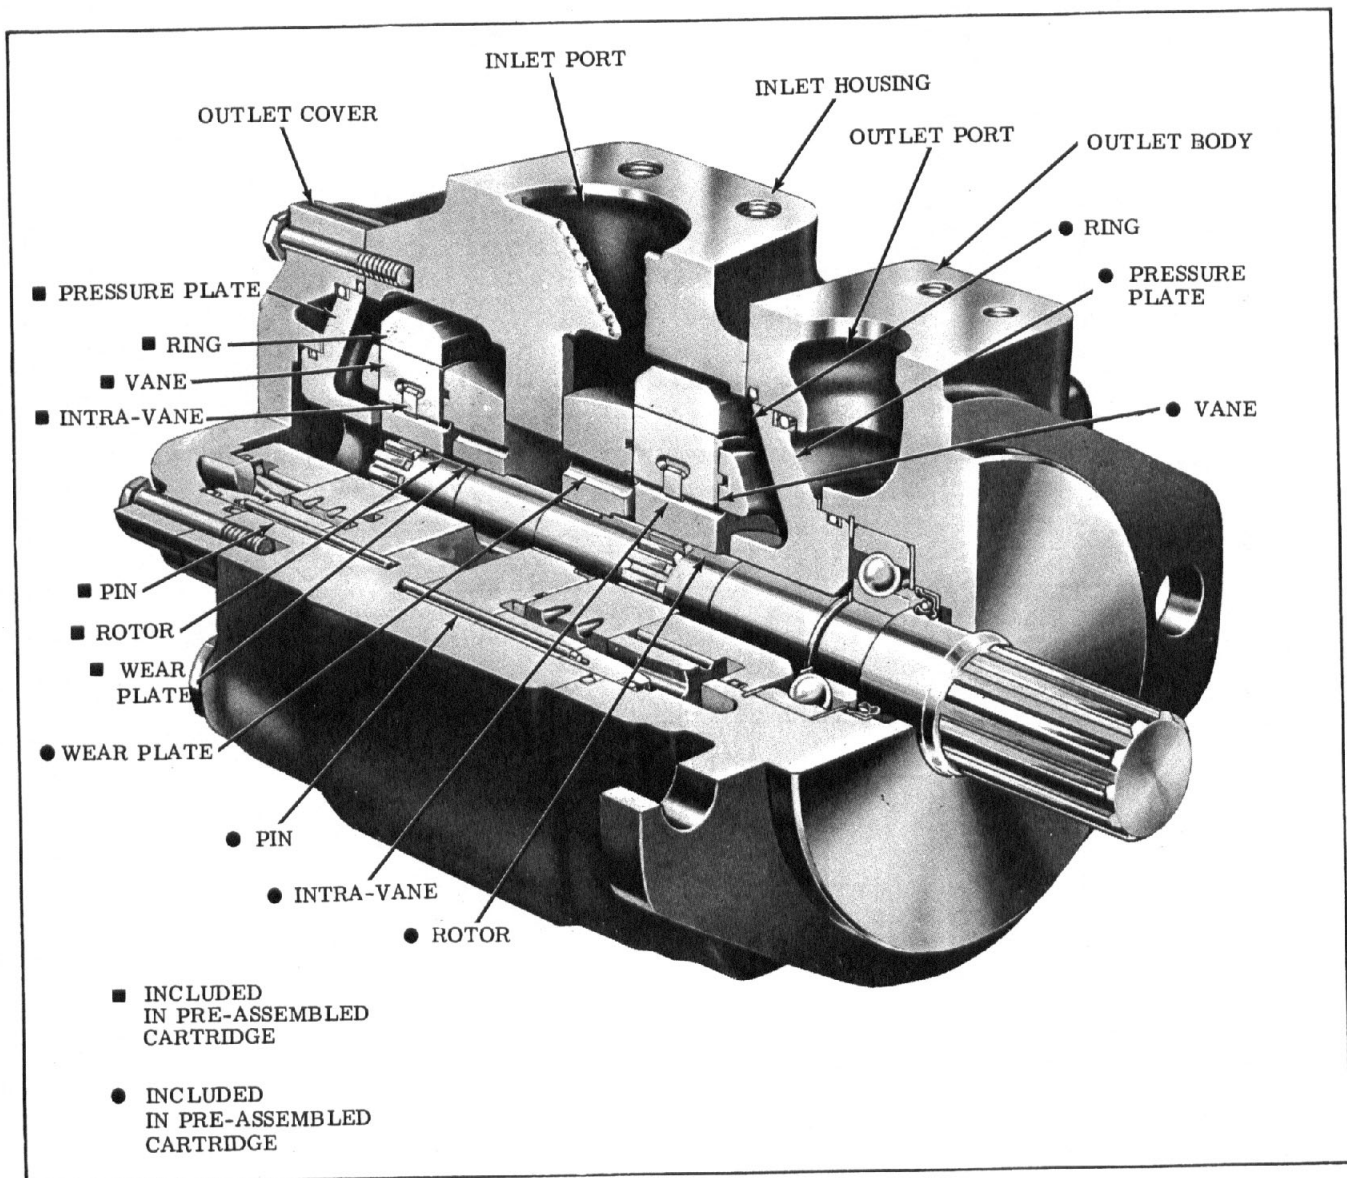

Figure 1 - Cutaway View of Typical Double Pump
1. Basic Pump - The pump illustrated in Figure 1 is representative of all double pumps in these series. The unit consists principally of an outlet body, inlet housing, outlet cover, driveshaft and two pumping cartridges. The principal components of each cartridge are an elliptical cam ring, a slotted rotor splined to the driveshaft, a pressure plate, a